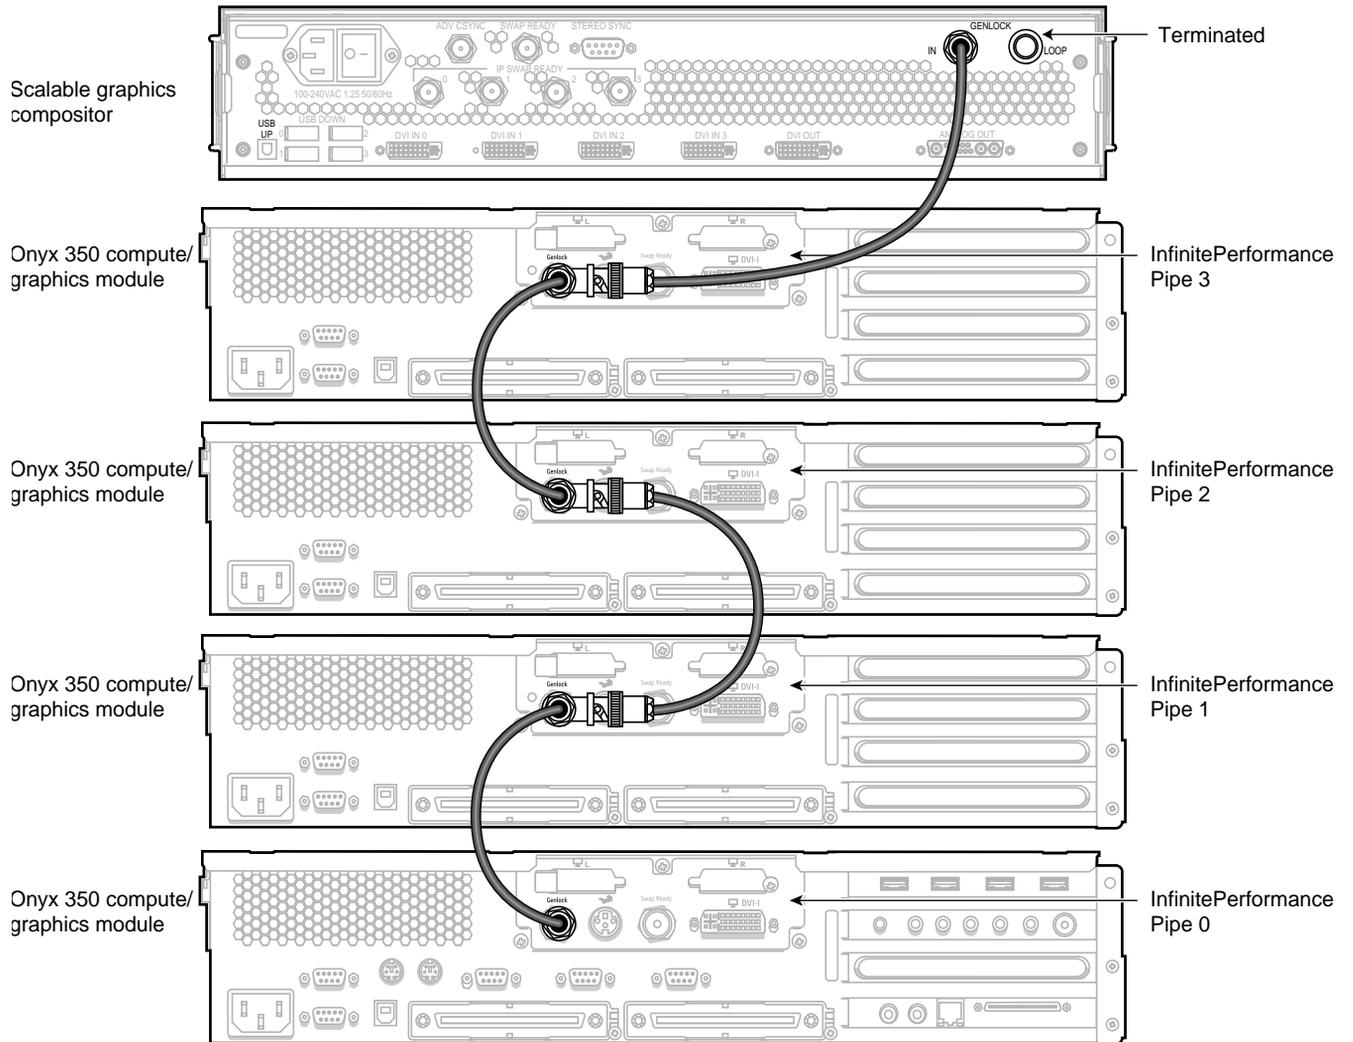

Figure 3-7 Connecting the Genlock Connectors
6. Using the 75-ohm BNC cables and the BNC L connectors, daisy-chain the InfinitePerformance genlock connectors to each other, and then connect the last genlock connector to the genlock-in connector on the compositor in the following order (as shown in Figure 3-7): pipe 0 to pipe 1, pipe1 to pipe 2, pipe 2 to pipe 3, and pipe 3 to the genlock-in connector on the compositor.
7. Connect the 75-ohm BNC terminator to the genlock-loop connector shown in Figure 3-7.